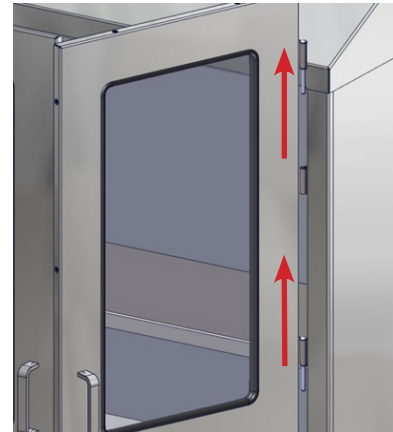

Fig. 1: Lift Door from Hinges
1. If the Base Cabinet is equipped with doors, they may be removed for ease of installation. To remove the doors, open the doors fully and lift them off their hinges. The pin on the hinge of the door will slide out of the barrel of the hinge on the cabinet (Fig. 1).
1. For Cabinets with doors, it will be necessary to first remove the doors. Open the doors fully and lift them off their hinges (Fig. 1, page 6).
1. Remove the cabinet doors if desired for ease of adjustment. Open the doors and lift them off their hinges. The pin on the hinge of the door will slide out of the barrel of the hinge on the cabinet (Refer to Figure 1, page 6).
1. Make sure that the cabinet is empty and shelves removed before installing the banked cabinets. Remove the doors prior to this operation (see Fig. 1, page 7).